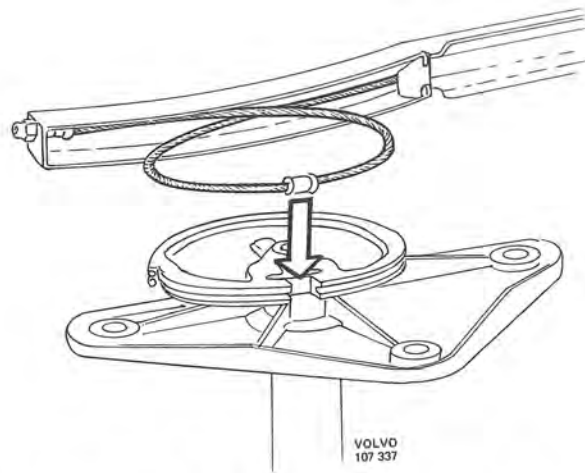

Fig. 3-103. Installing cable for drive link and parallel drive link, left-hand side
1. Place the cable's flange nipple in the segment recess and then lever the cable over the segment, see Fig. 3-103). This work should be done with the greatest care in order not to score the segment or damage it in any other way, as this would lead to disturbance in operation.
1. Place the cable's flange nipple in the large segment recess and thereafter prise the cable over the segment, see Fig. 3-103. Great care should be observed when doing this in order not to score the segment or damage it in any other way, otherwise this might lead to disturbance in operation.
2. Place the drive link cable's flange nipple in the front segment recess and thereafter prise the cable over the segment, see Fig. 3-103. Attach the drive link to the lever on the wiper motor. Tension the cable.